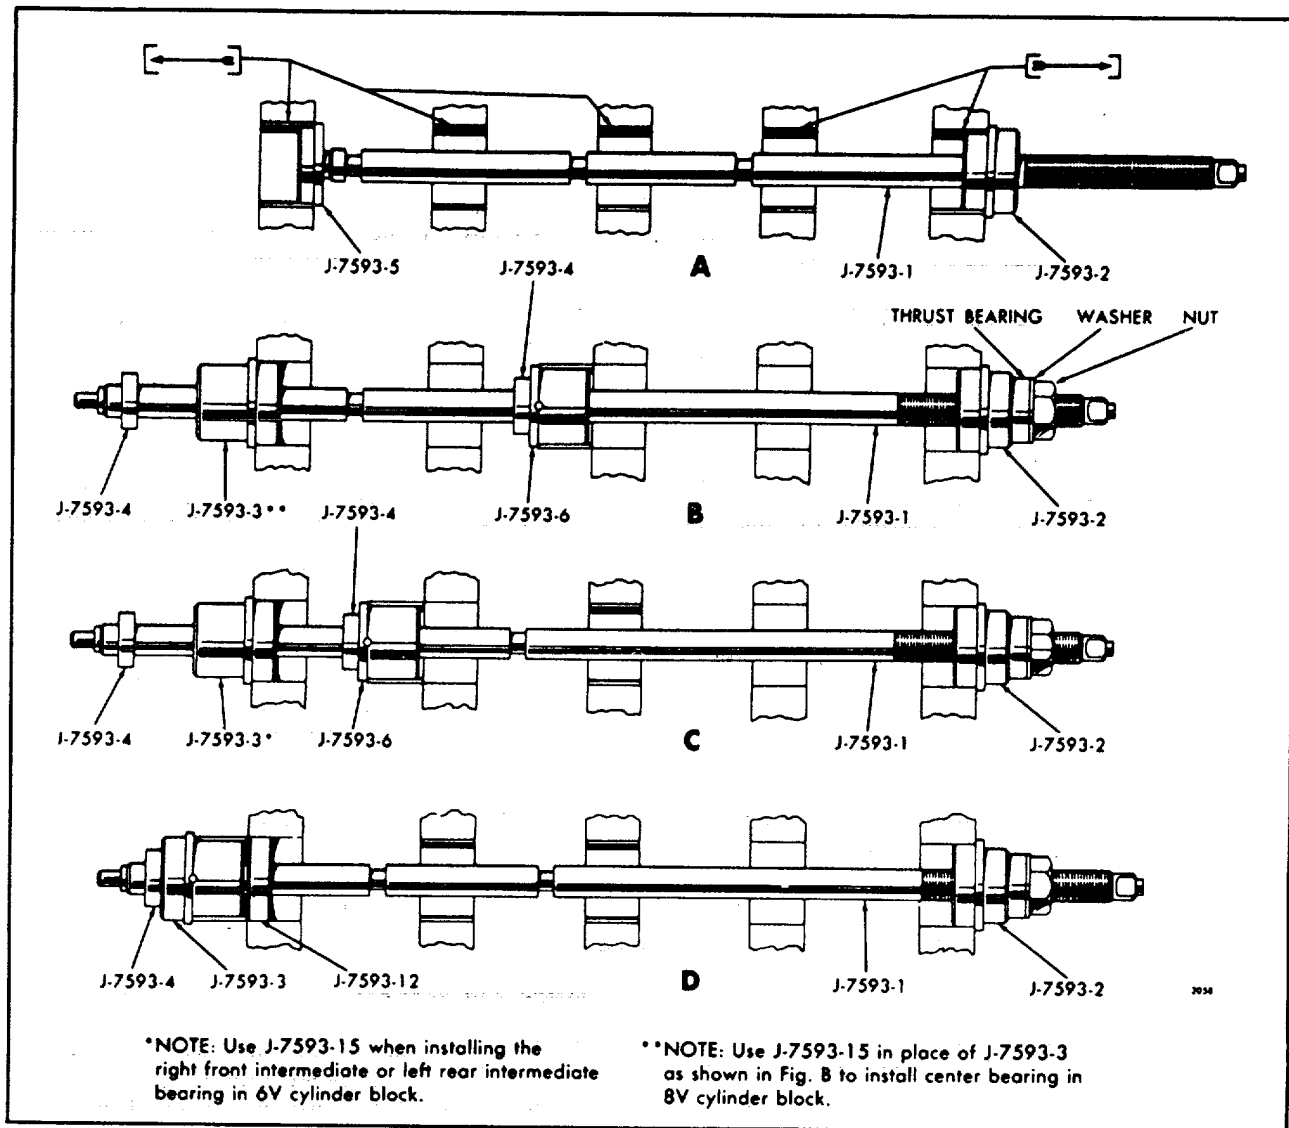

Figure 7. Removing and Replacing Camshaft or Balance Shaft Bearings
1. Insert pilot J 7593-2 in the bore of the block as shown in "D" of Fig. 7. Use the small diameter of the pilot if a bearing has been installed.
5. Next, place a spacer (if required), thrust washer, plain washer and hex nut over the threaded end of the shaft as shown in "D" of Fig. 7 and, using a suitable wrench on the hex nut, draw the bearing into place until the shoulder on the installer prevents the shaft from further movement. The bearing is now installed in its correct position.